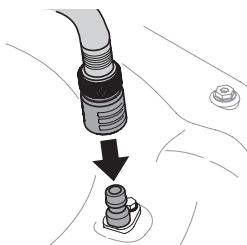

Figure 23
- Attach garden hose with the deck wash nozzle to the water port on your deck's surface (Figure 23).